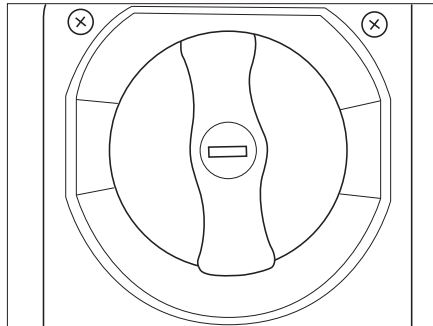

Fig. 66 Fresh water tank filler opening
- Fill the fresh water tank via the filler opening by means of a suitable filling hose or canister (Fig. 66).